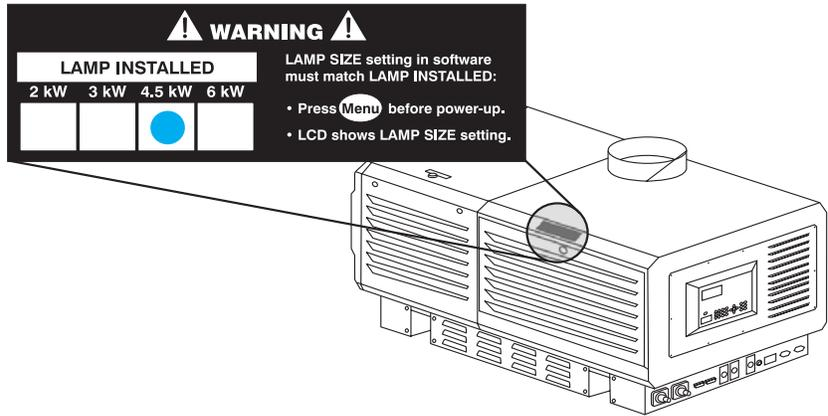

Figure 4.3. Always Mark the “Lamp Installed” Label (EXAMPLE)
3. Use (Left Arrow) (Right Arrow) to select which lamp is currently installed. Make sure the lamp type is also indicated on the lamp door label (see Figure 4.3).